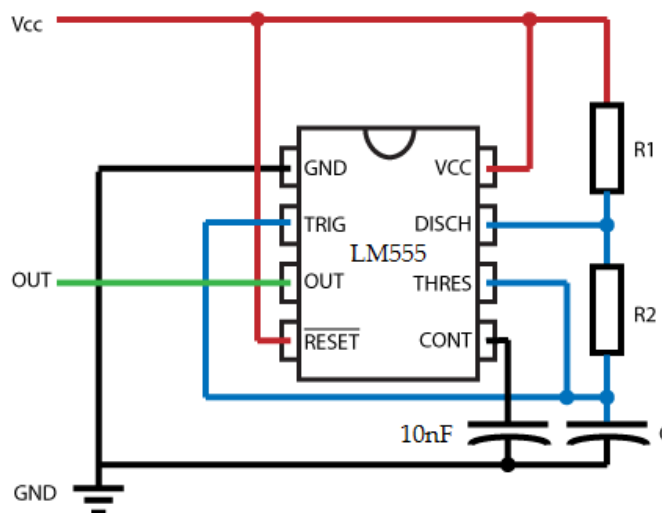

Figure 7. The LM555 in astable mode
Figure 7 illustrates an LM555 configuration for astable mode operation.
The external capacitor ( $C_1$ ) charges through  $R_1 + R_2$  and discharges through  $R_2$ . Thus, the duty cycle and frequency may be precisely set by selecting the right combination of resistances and capacitance. According to Figure 6 and Figure 7, the charge time (output high) is given by  $T_1 = 0.693 \times (R_1 + R_2) \times C$ . The discharge time (output low) by:  $T_2 = 0.693 \times R_2 \times C$ . Thus, the total time period of square wave is  $T = T_1 + T_2 = 0.693 \times (R_1 + 2R_2) \times C$ . Consequently, the frequency of oscillation is  $\frac{1.44}{(R_1 + 2R_2) \times C}$ . The duty cycle also can be computed by  $D = \frac{R_2}{R_1 + 2R_2}$ .
1. Implement the LM555 in astable mode using the wiring diagram from Figure 7 and observe the output on oscilloscope.